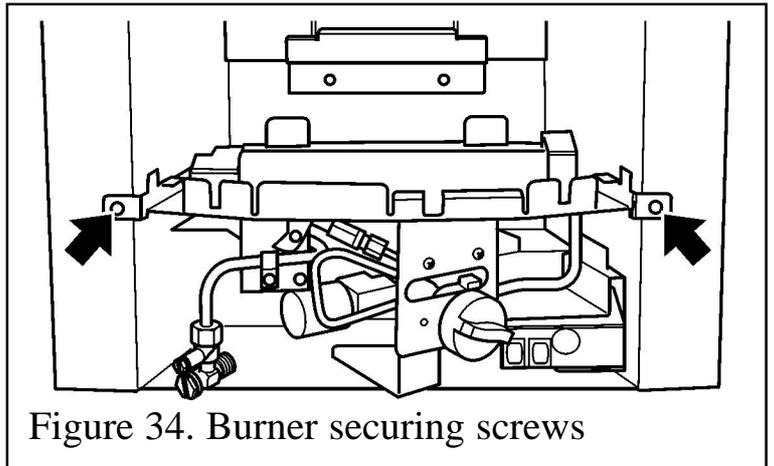

Figure 34. Burner securing screws
3. Remove the two burner securing screws (See figure 34).